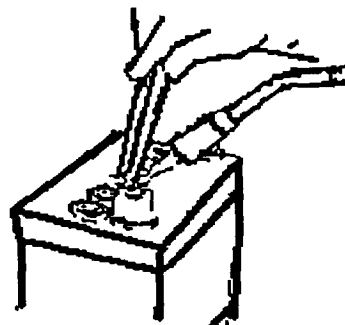

Figure 4-2
- (8) With the steel post mold securely in place, apply heat to the top of the damaged post. Use a torch that produces a narrow pencil-shaped flame in order to direct the heat to the top of the post without overheating the post mold. An overheated mold will cause the lead to become too hot and lost by running out under the base of the mold. As the lead starts to melt, be careful not to jar and unseat the mold. Use a thin steel prop and manually test the top of the lead post to determine when the post is molten enough to accept new lead to be added. This will be difficult to tell with the naked eye, and the use of the prod will help to prevent overheating of the lead. When the top of the lead post is molten, hold one end of the lead stick close over the opening of the mold. Heat the end of the stick and feed the molten lead into the molten metal of the battery post. Be sure to keep both the molten lead of the post and the new molten lead fluid until the mold is filled. (See Figure 4-2).